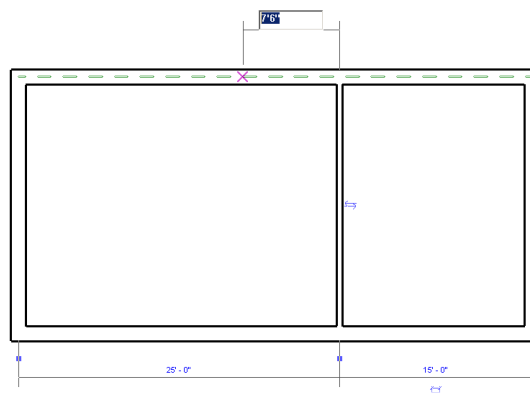

Figure 3-58 Specifying the starting point of the second interior wall
1. To sketch the second interior wall, move the cursor to the upper endpoint of the interior wall you just created and then move the cursor horizontally toward the left. When the temporary dimension and the intersection object snap appears, enter **7'6" (2286 mm)**, as shown in Figure 3-58. Now, press ENTER; the start point of the second interior wall segment is specified on the upper horizontal exterior wall.